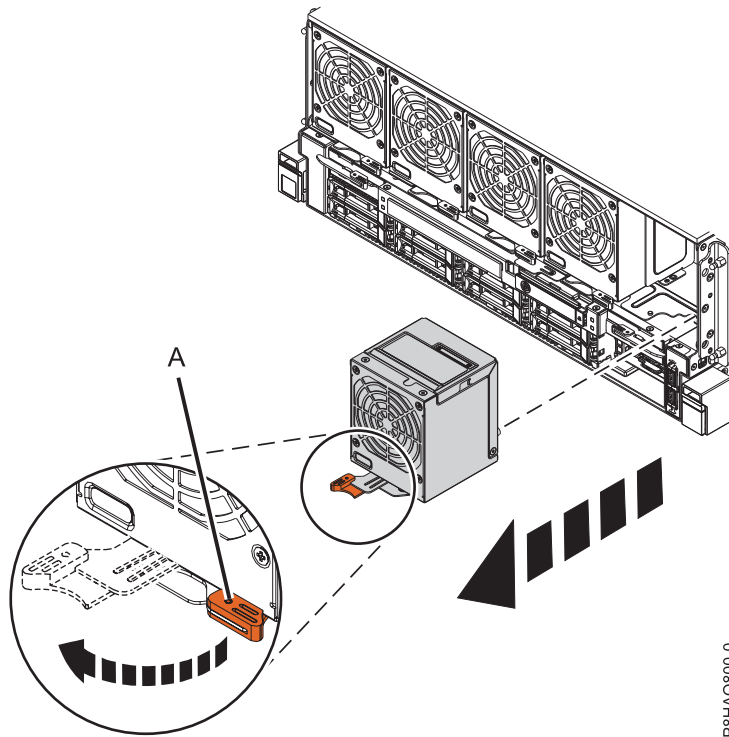

Figure 7. Removing the front fan
1. Rotate the fan handle (A) in the direction shown in Figure 7 on page 8 to unlock the fan from its slot.